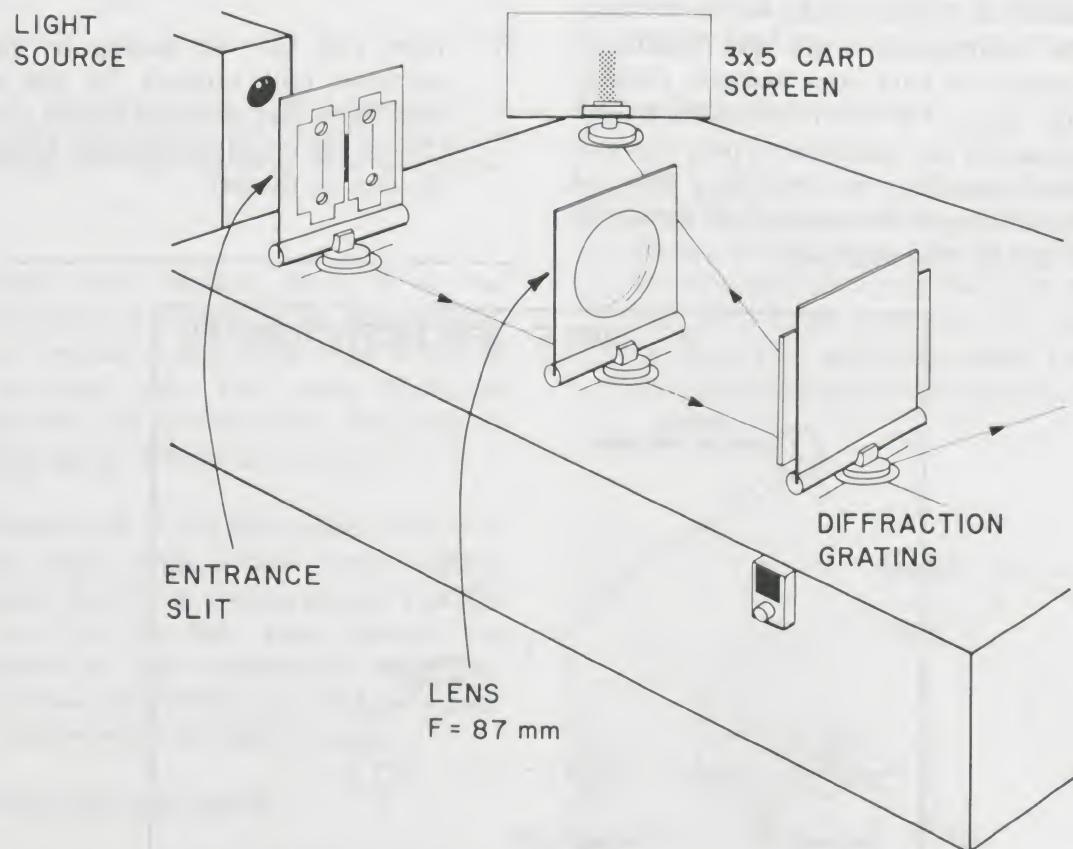

Figure 7. A spectrophotometer using only a slit, lens, and grating. It spreads the light from the source into a spectrum on a 3×5 index card.
2. Place the components on the base as shown in Figure 7 and the plan below. When you do this, you should see the colors of the rainbow in a spectrum on the white 3×5 index card. You may have to make some adjustments to make it work best. This procedure is called *alignment*.